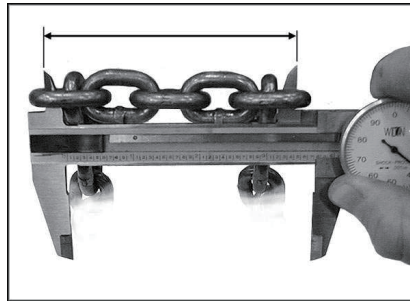

FIG 11
- Carefully inspect the entire load chain. As illustrated in (FIG 11), measure five consecutive links with calipers to find the length. Compare the results with the table in (FIG 12). Check every three feet and especially where excessive wear is indicated. Any load chain that shows noticeable deformation or heat influence must be replaced with a new one.